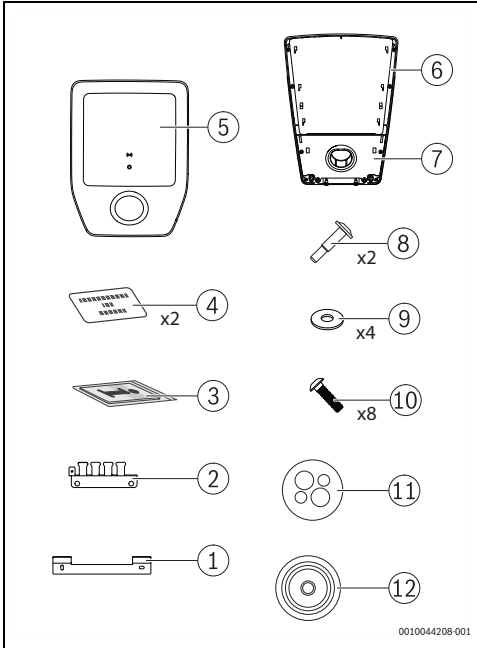

Fig. 25 Scope of delivery
- ▶ Carefully remove the cover [5] and the cap with the parking holder [7] from the Power Charge 7000i (→ Fig. 25, page 32).